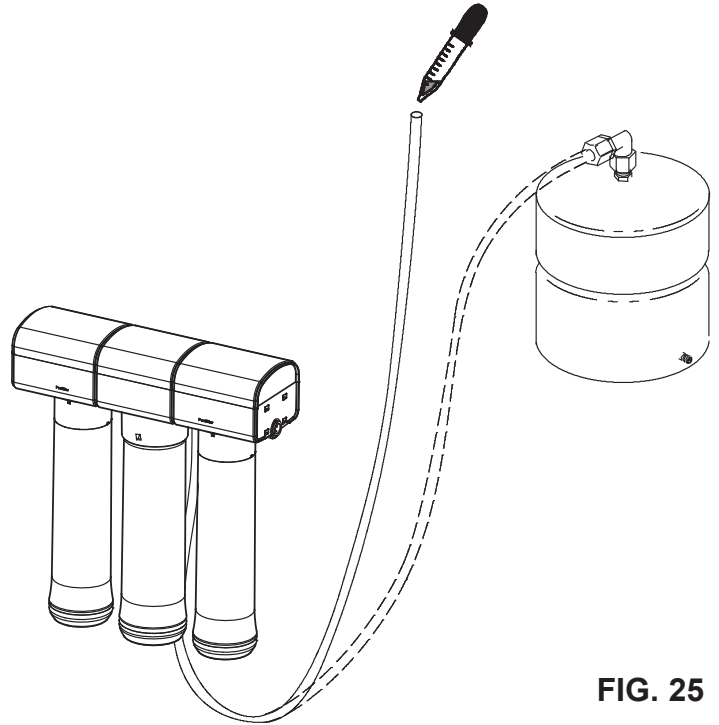

FIG. 25
Complete the following steps to sanitize the system. See Fig. 25.
4. Add 3 ml. of bleach into open end of yellow tubing. Handle bleach according to bleach manufacturer's recommendations. See Fig. 25.